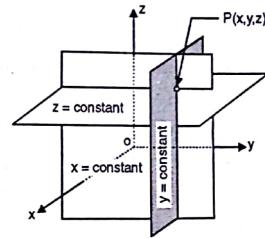

Fig. 6.1.2 : Point is defined by three planes
- Consider,  $x = \text{constant}$  and  $y = \text{constant}$  planes. These two vertical planes intersect and the intersection is a vertical line. To obtain a point take the third plane, i.e.  $z = \text{constant}$  plane i.e. horizontal plane. The vertical line and horizontal plane intersects and the intersection is a point [ point P in Fig. 6.1.2].